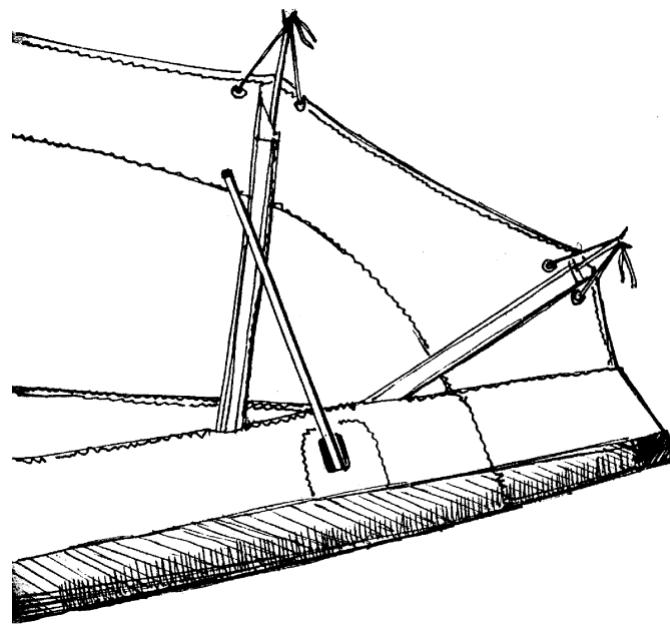

Fig. 40
2.4.12. Check that washout tips are secured in the sockets in the leading edge tubes (Fig. 40).